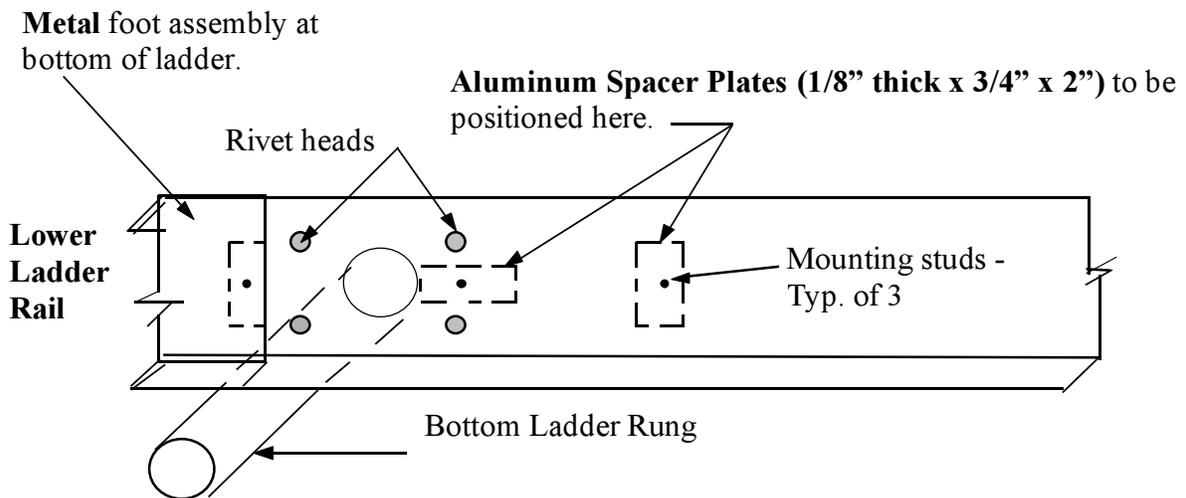

Figure 3-4B
7. Mount the Leveler by passing the mounting studs through the drilled holes in the ladder rail. (See **Figure 3-2B** for Werner and similar and **Figure 3-4B** for Louisville and similar ladders.) For 375 pound ladders place the 2” square washers (provided in kit) over the upper-most mounting studs. Place large round, fender washer